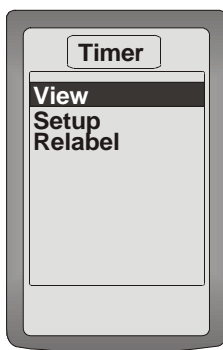

Figure 4-3: The timer menu
1. From the Timer menu (*Figure 4-3*) scroll to Relabel and press ENTER. The following screen appears: